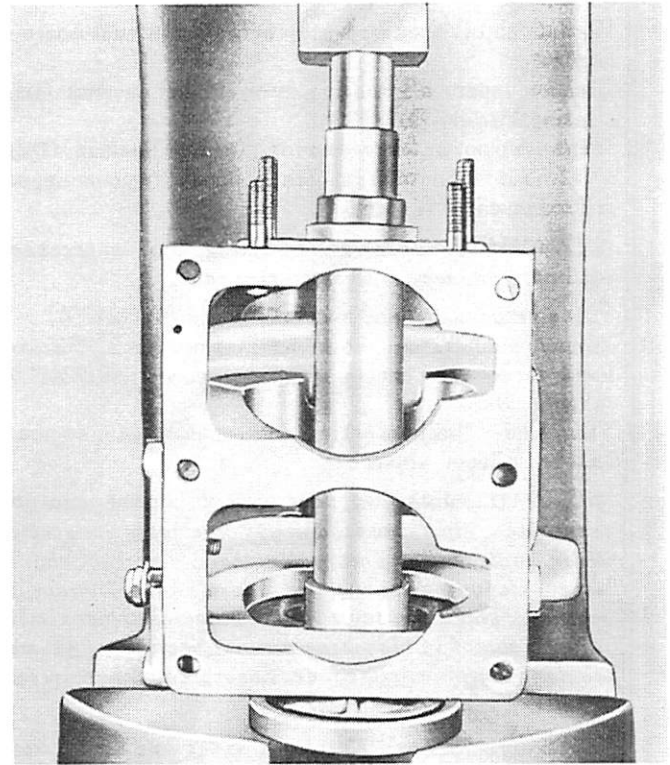

Figure 11. Installing Roller Bearing in Crankcase
3. Install crankcase ball and roller bearings with Bearing Mandrel Tool (91-25045). (Figure 11) End of mandrel with larger diameter and larger of 2 collars is for installation of larger upper roller bearing in Mark 25 and Mark 20H models. Opposite end, with smaller collar, is for smaller roller bearings in KE7, KF7, KG7, KH7 and KG4. Small end is adapted with large collar for pressing upper roller bearing in Mark 20-15. Largest ring is guide, fitting into open end of crankcase. Small flat collar (C) seats on either shoulder of mandrel to press in ball bearing.